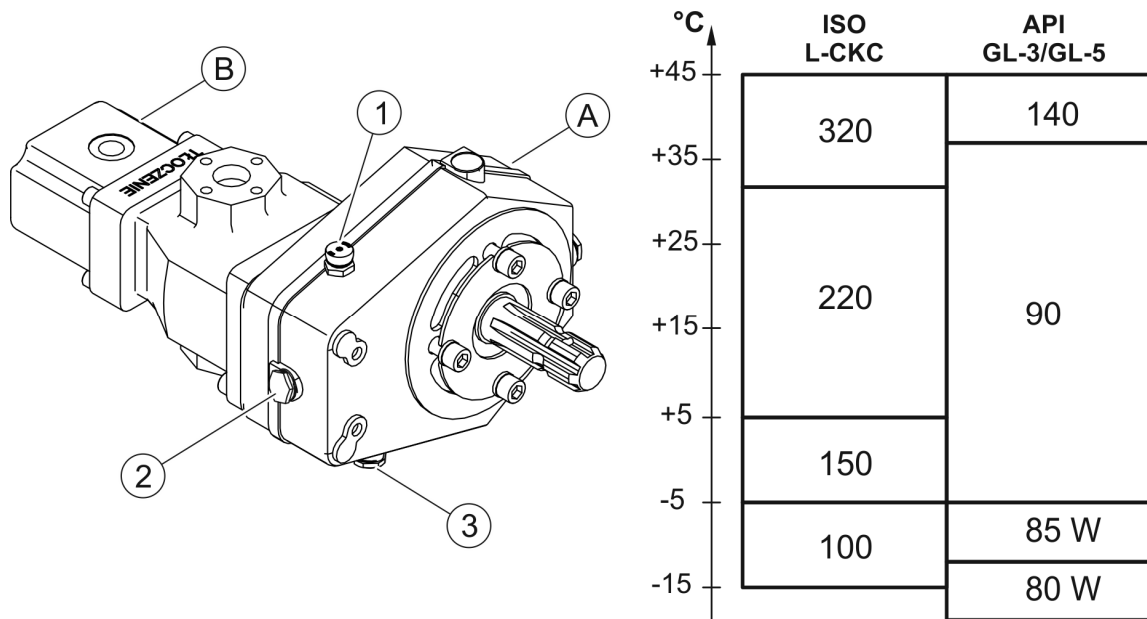

FIGURE 5.2 Multiplier gear box with a hydraulic pump and viscosity classification of gear oils depending on the ambient temperature.
No oil leaks from the multiplier gear box (A) and pumps (B) (FIGURE 5.2) are allowed. These can be stopped by tightening the mounting bolts or replacing the seals. If needed, unscrew the oil filler cap (3) and top up gear oil to the sight glass level (2). To change oil, unscrew the drain plug (3) and drain oil into a prepared container. Then pour oil into the multiplier gear box through filler plug (1) to the sight glass level (2).
ISO L-CKC or API GL-3 / GL-5 quality class gear oil may be used. The viscosity class of the gear oil is selected depending on the ambient temperature (FIGURE 5.2).